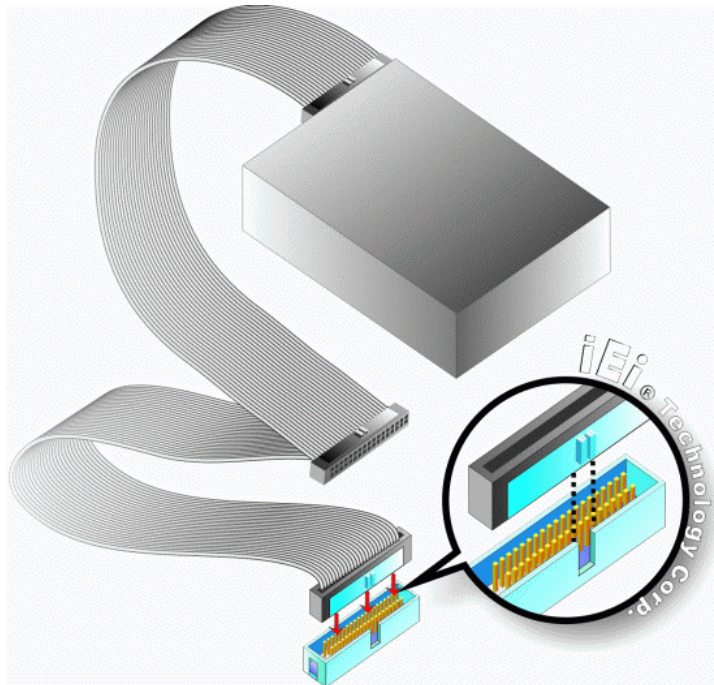

Figure 5-10: IDE Cable Connection
Step 2: Insert the connector. Connect the IDE cable connector to the onboard connector. See **Figure 5-10**. A key on the front of the cable connector ensures it can only be inserted in one direction.